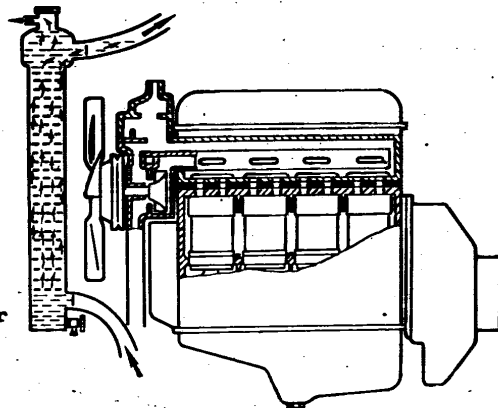

Fig. 31. Flushing Radiator
- flush the radiator with hot water at a pressure of 0.5 kgf/cm² for 30 - 40 min in the direction opposite to normal circulation (Fig. 31).